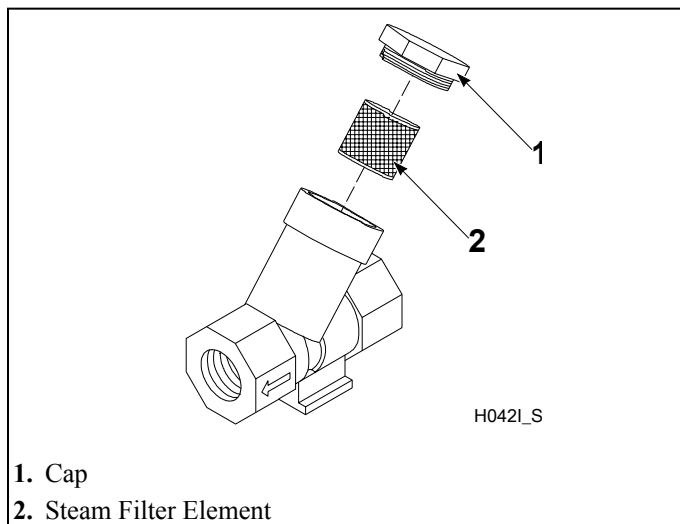

Figure 60
3. If applicable, clean the customer-supplied steam filter. Refer to *Figure 60*.